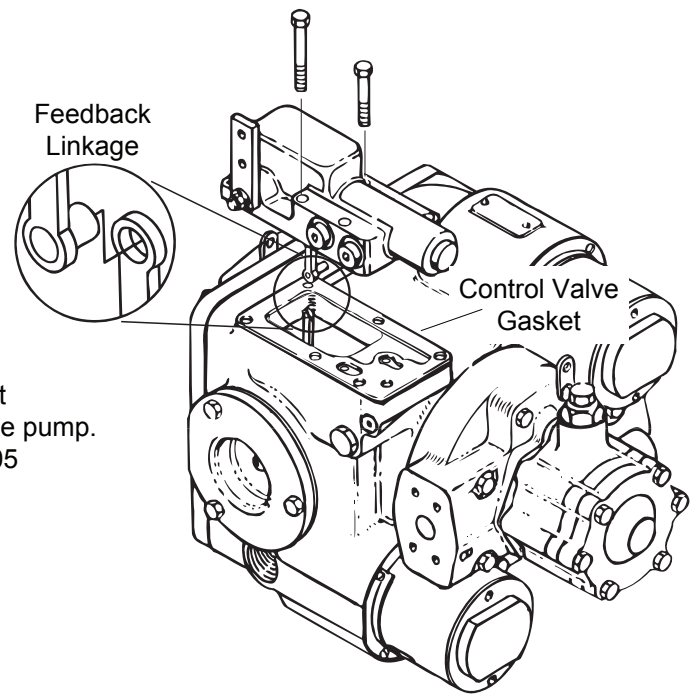

Figure 2
- 8 Lift the control valve away from the pump and disengage the feedback linkage, see figure 2.